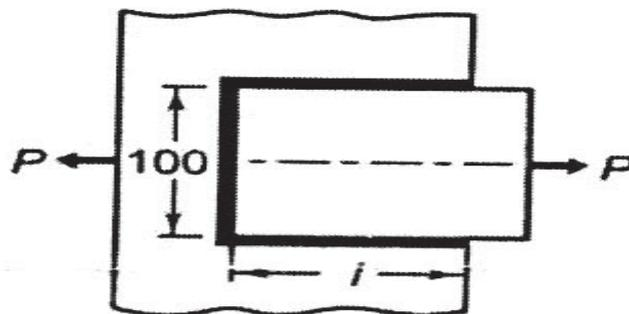

Fig.4
- b) A steel plate, 100mm wide and 10 mm thick, is joined with another steel plate by means of single transverse and double parallel fillet welds, as shown in Fig.4. The strength of the welded joint should be equal to the strength of the plates to be joined. The permissible tensile and shear stresses for the weld material and the plates are 70 and 50 N/mm^2 respectively. Find the length of each parallel fillet weld. Assume the tensile force acting on the plates as static. [12]